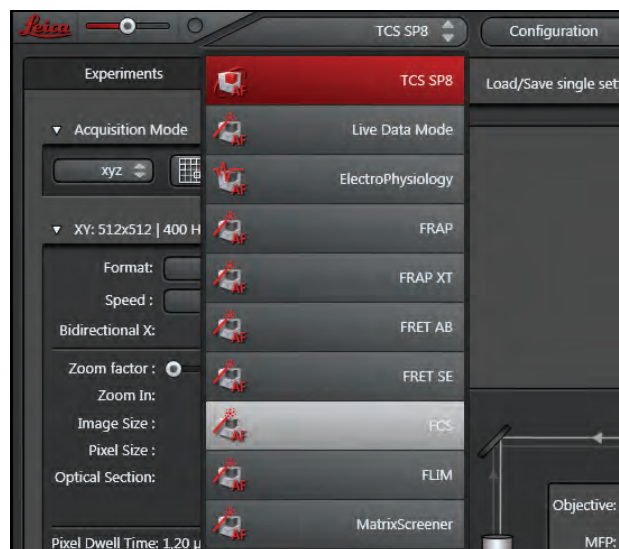

Figure 153: Opening the FCS Wizard in LAS AF
3. Start the FCS Wizard by selecting the **FCS** operating mode (**Figure 153**). Using FCS is logical only if the software has not been started previously in resonant mode (**Resonant Scanner**).